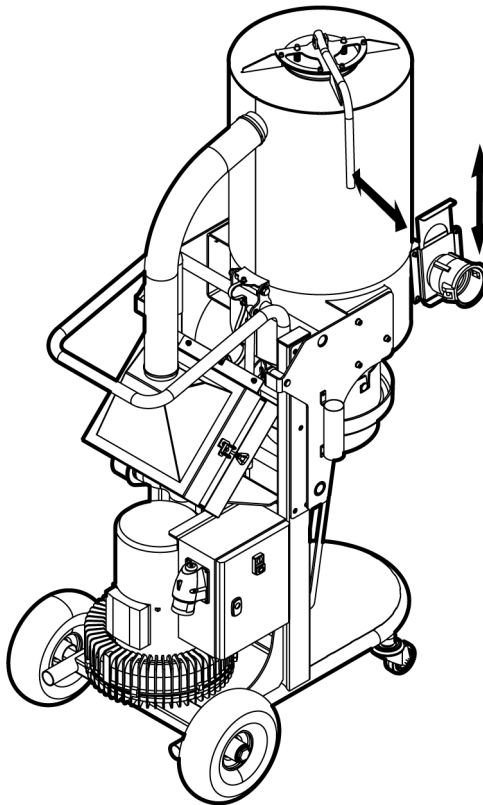

Figure 4-6. Filter cleaning
2. Press the valve handle in towards the upper cylinder section, so the valve cover opens for about 1 second. Then release the handle, see Figure 4-6, page 18.